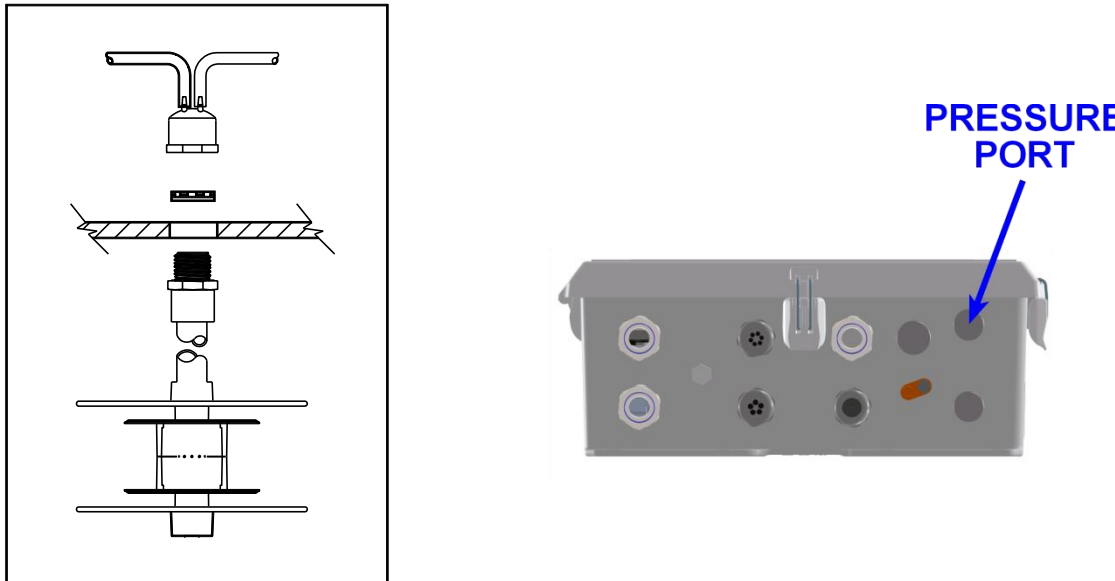

Figure 66. Install Pressure Port at Bottom of DCP Enclosure
1. Install the Pressure Port at the bottom of the enclosure as shown in Figure 66.